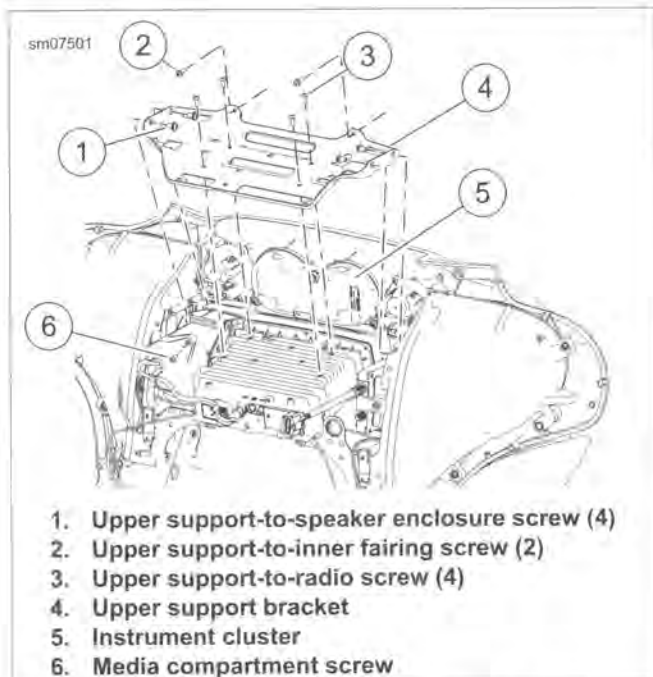

Figure 2-147. Upper Support Bracket
5. See Figure 2-147. Remove four screws (1).
6. Remove two screws (2).
7. Remove four screws (3).
8. Remove screw (6) securing media compartment.
9. Remove upper support bracket (4).
1. See Figure 2-147. Place upper support bracket (4) into position.
- a. Tighten screws (2) to 10-20 in-lbs (1.1-2.2 Nm).
- b. Tighten screws (1) to 48-60 in-lbs (5.4-6.8 Nm).
- c. Install four screws (3). Tighten to 25-35 in-lbs (2.8-4.0 Nm).
4. Install screw (6). Tighten to 25-35 in-lbs (2.8-4.0 Nm).